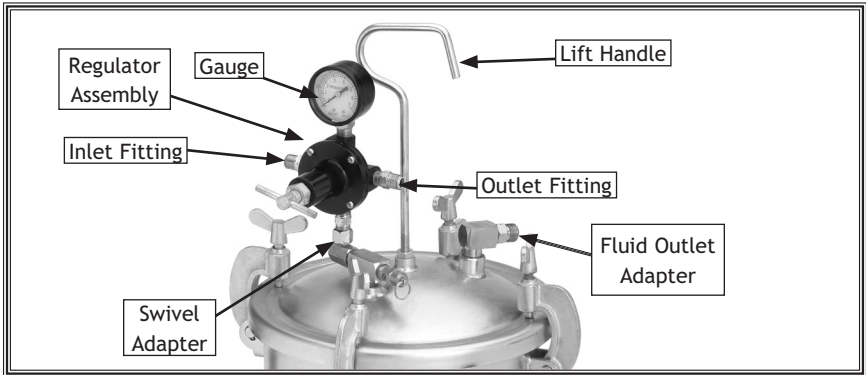

Figure 2. Regulator and lift handle installed on paint tank.
1. Thread the lift handle into the center hole on the tank lid (see Figure 2) and secure with the hex nut.
2. Thread the regulator assembly onto the swivel adapter on the lid (Figure 2).